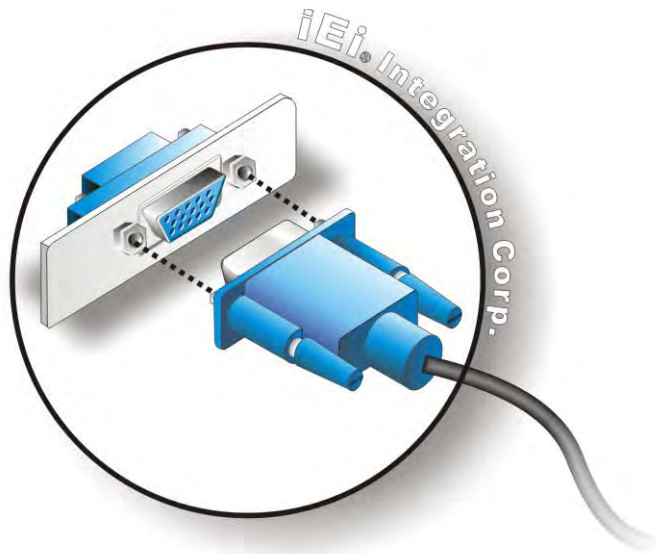

Figure 4-9: VGA Connector
- Step 3: Insert the VGA connector.** Once the connectors are properly aligned with the insert the male connector from the VGA screen into the female connector on the KINO-KBN-i2. See **Figure 4-9**.